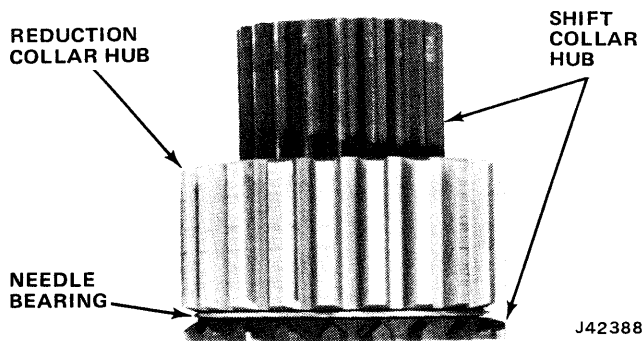

Fig. 8-37 Needle Bearing and Reduction Collar Hub Assembled with Shift Collar Hub
(22) Install reduction shift collar as follows:
(23) Install needle bearing and reduction collar hub on shift collar hub (fig. 8-37).